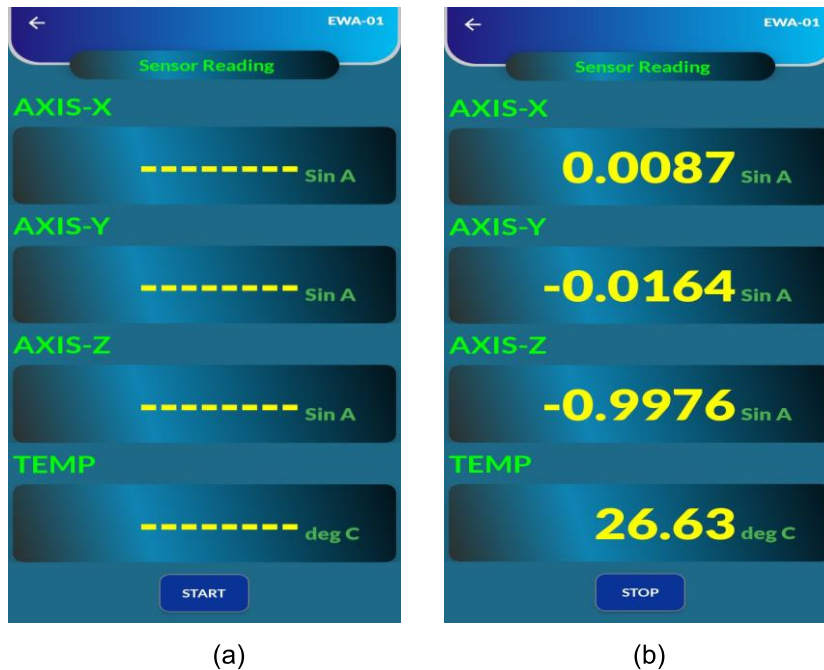

Figure 6-11 Sensor reading
- Tap the “SENSOR READING” tab from “Config Node” screen (figure 6-7 (a)) to see the live readings of tilt and temperature. Screens as shown in figures 6-11 (a) & (b) will appear.